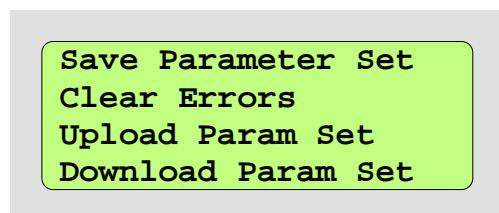

Figure 3: LCD in Function Selection Mode
- in Function Selection Mode; for this mode refer to ↑ 4.4 Function Selection Menu, configuration of the display as in Figure 3.